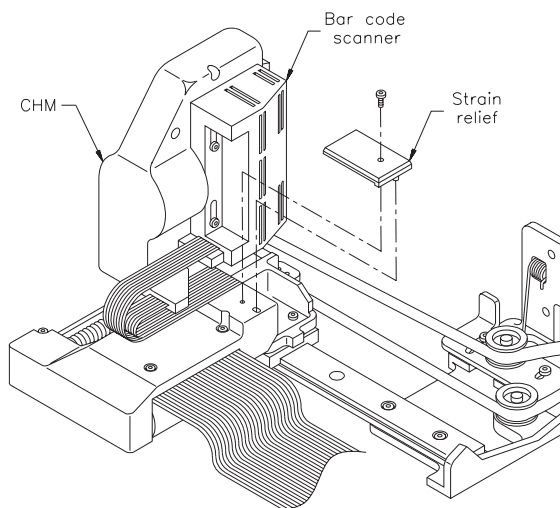
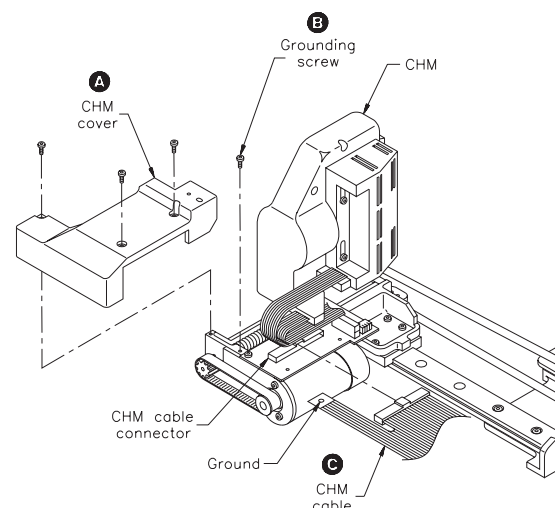

Figure 1 Removing the strain relief
Figure 2 Removing the cover, cable, and cable ground
2. Remove the screw from the strain relief (see Figure 1), the CHM cover (step A in Figure 2), and disconnect the grounding screw (step B in Figure 2) and CHM cable (step C in Figure 2).